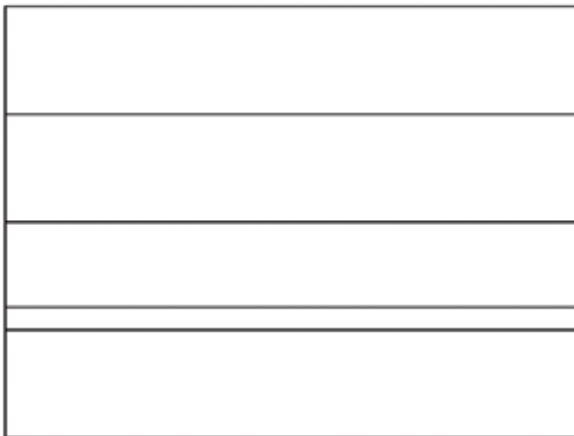

Figure 10.1
4. Use the Parallel command to offset the bottom line so you have a horizontal line at the centerline markings for the polygons, and the bottom edge of the large polygon. Your drawing should now look like Figure 10.1.